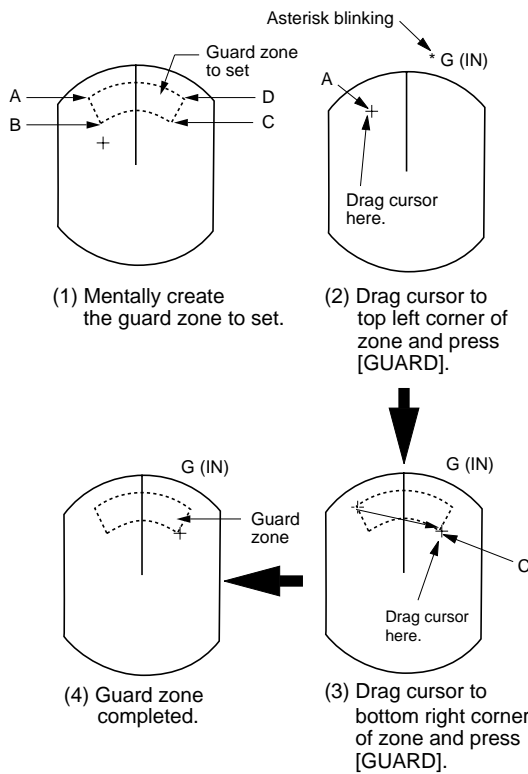

Figure 3-8 How to set the guard zone
1. Mentally create the guard zone you want to set. Figure 3-8 shows an example.
2. Operate the omnipad to set the cursor on point A (or B). Press the [GUARD] key. "\*G (IN)" or "\*G (OUT)," with asterisk blinking, appears at the top right-hand corner of the display. See Figure 3-8 (2). (The asterisk indicates the guard zone is partially set.)
- Operate the omnipad to set the cursor on point C (or D). See Figure 3-8 (3).
- Press the [GUARD] key. The asterisk disappears. See Figure 3-8 (4).